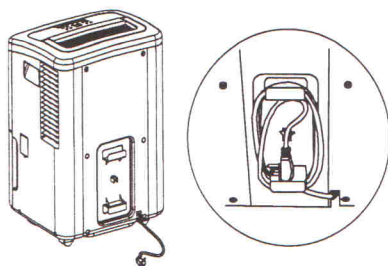
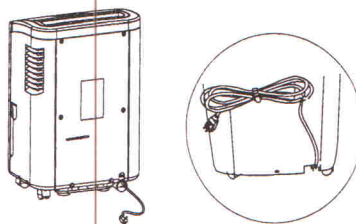

Fig. 12a
Fig. 12b
- Twist the cord on the buckle (Fig. 12a) or wrap the cord and bundle it with the band (Fig. 12b).